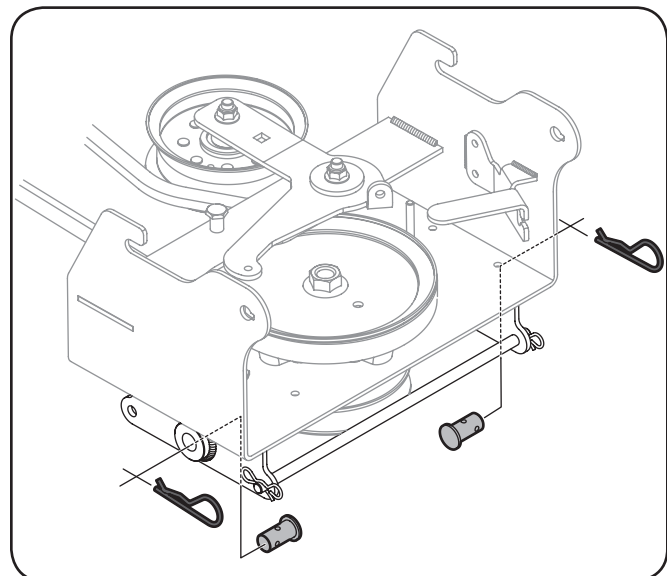

Figure 3-3
1. Remove the clevis pins and hairpin clips from the carriage assembly. Retain the clips and pins, as they will be used to attach components in later steps. See Figure 3-3.